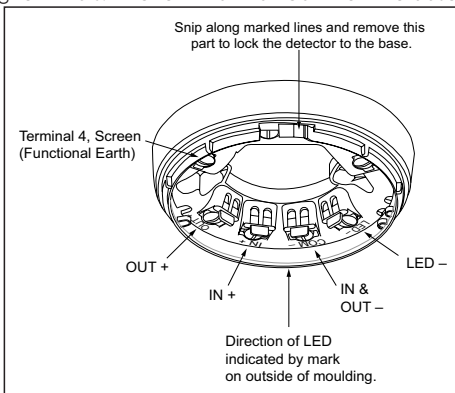

Fig 1 The Orbis base terminals
1. Activate the locking mechanism if the detector is to be locked into the base. To do this, remove the small portion of plastic shown in **Fig 1** with side cutters or similar tool.
3. **Fig 1** shows the wiring terminals. The terminal marked '4' on the base is provided for connecting the screen or functional earth.